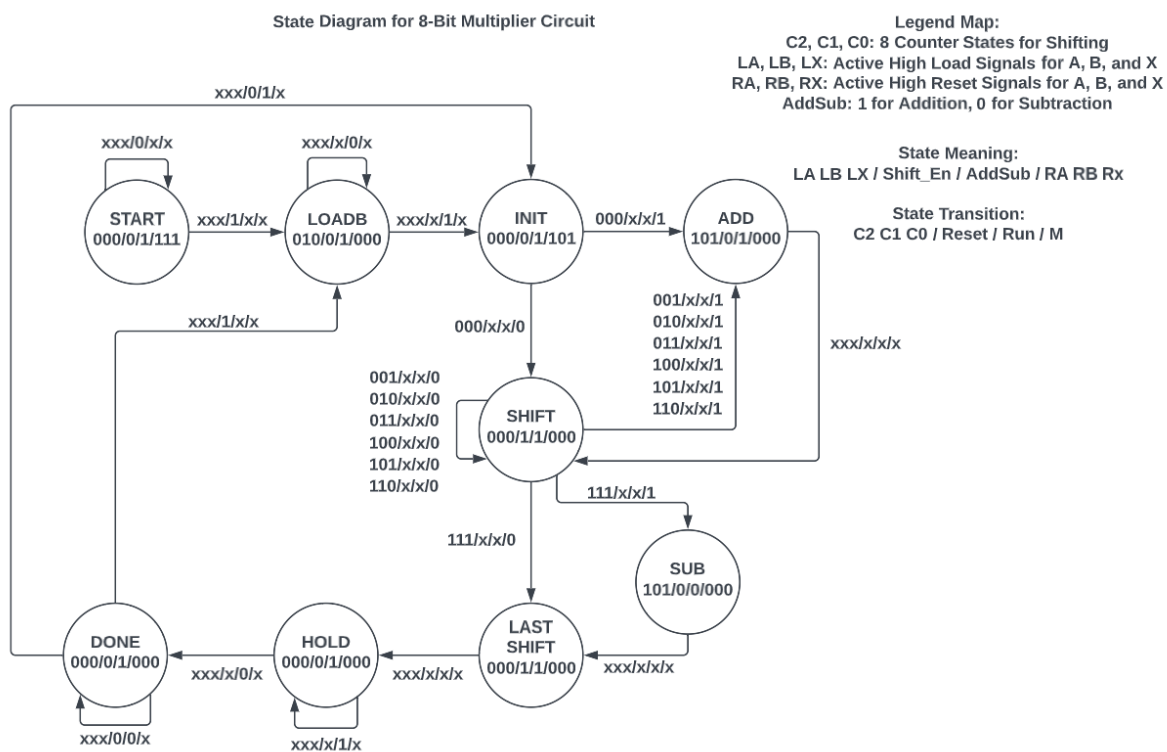
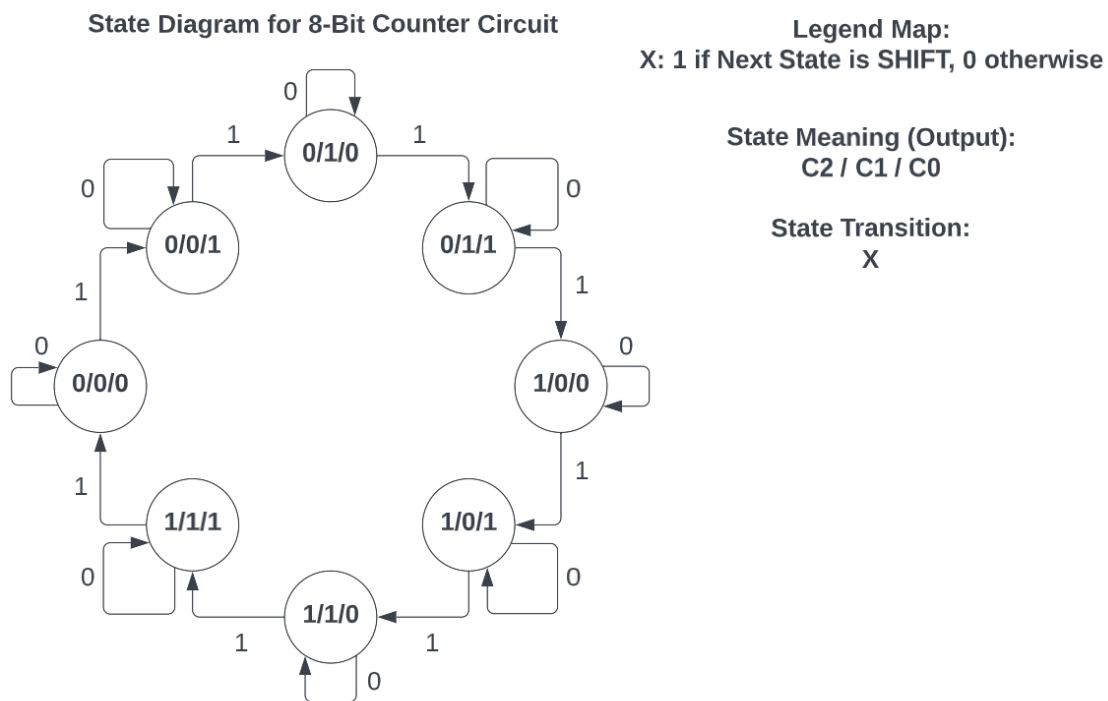

Figure 2: State Diagram for 8-bit Multiplier Circuit
Figure 3: State Diagram for 8-bit Counter Circuit
The Moore state machine design used in this experiment is described below in Figures 2 and 3. The design controls the shift, addition, subtraction, register resetting, and register loading operations. This was handled using the appropriate outputs for each state. The state transitions and outputs are defined in Figure 2. A synchronous counter was used to track the number of shifts as shown in Figure 3, which reduced the number of total states in the design.
- b. We could try to reduce the number of states in our overall design. For example, removing the START state in Figure 2 would bring the state machine to 8 states. This would reduce the design by 1 flip-flop since we can represent 8 states using 3 flip-flops.